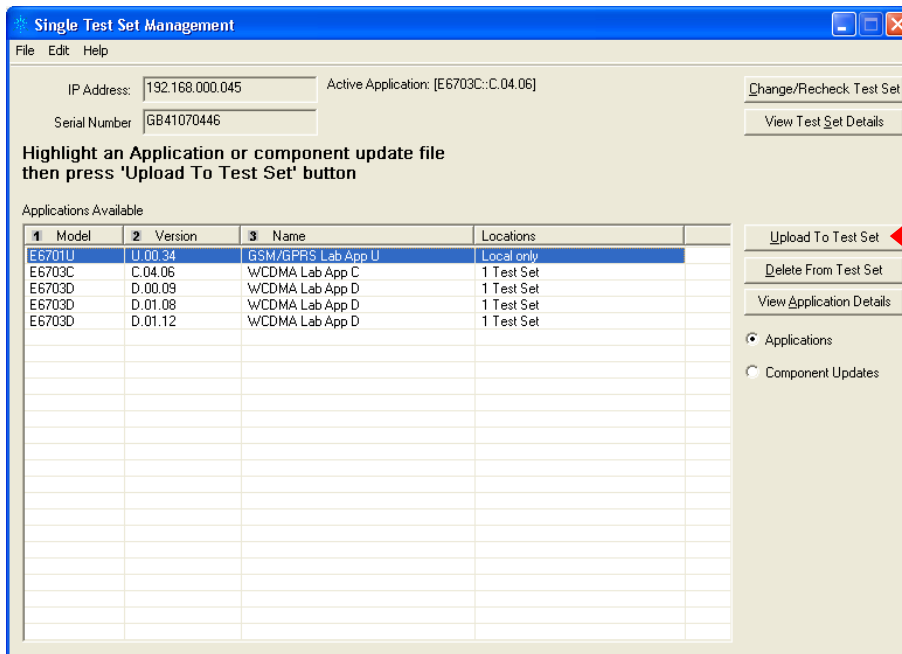

Figure 8: Lab Application Upload
- j. Highlight the locally stored version of Lab App, as shown in Figure 8, then select **Upload To Test Set**.